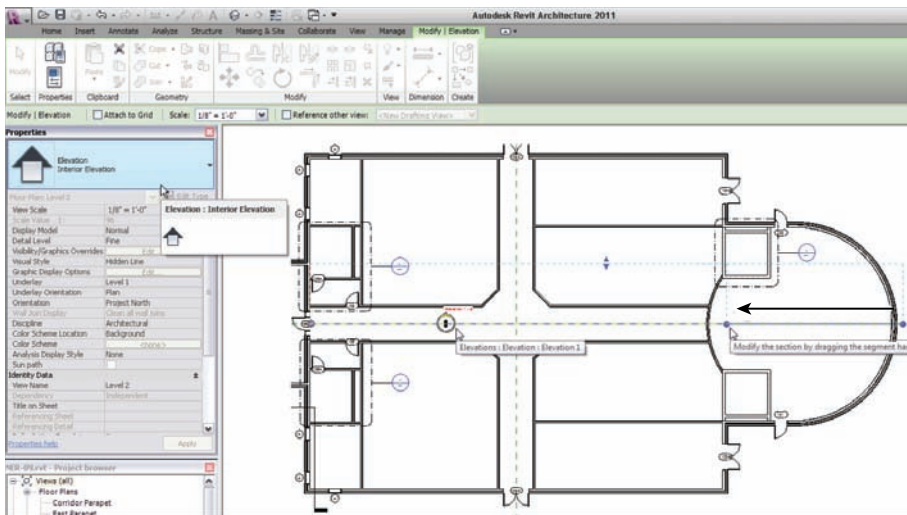

FIGURE 3.79 Adding an interior elevation and making the adjustments
3. In the Type Selector, choose Elevation : Interior Elevation, as shown at the top of Figure 3.79.
4. Hover your cursor in the corridor near a point shown in the middle of Figure 3.79. Notice that when you move your cursor up, the arrow flips up. When you move your pointer down, the arrow flips down.
5. Make sure the arrow in the elevation target is pointing up and then pick a point along the horizontal corridor, as shown at the right of Figure 3.79, to place the elevation. Once it's placed, press Esc to terminate the command.
6. After you place the elevation, select the arrow. You will notice that the extents are outside the building (in most cases this occurs; if it does not, you are good to go). Select the elevation again, and on the right side, pick the blue grip and drag the right extent to the point shown at the right in Figure 3.79.